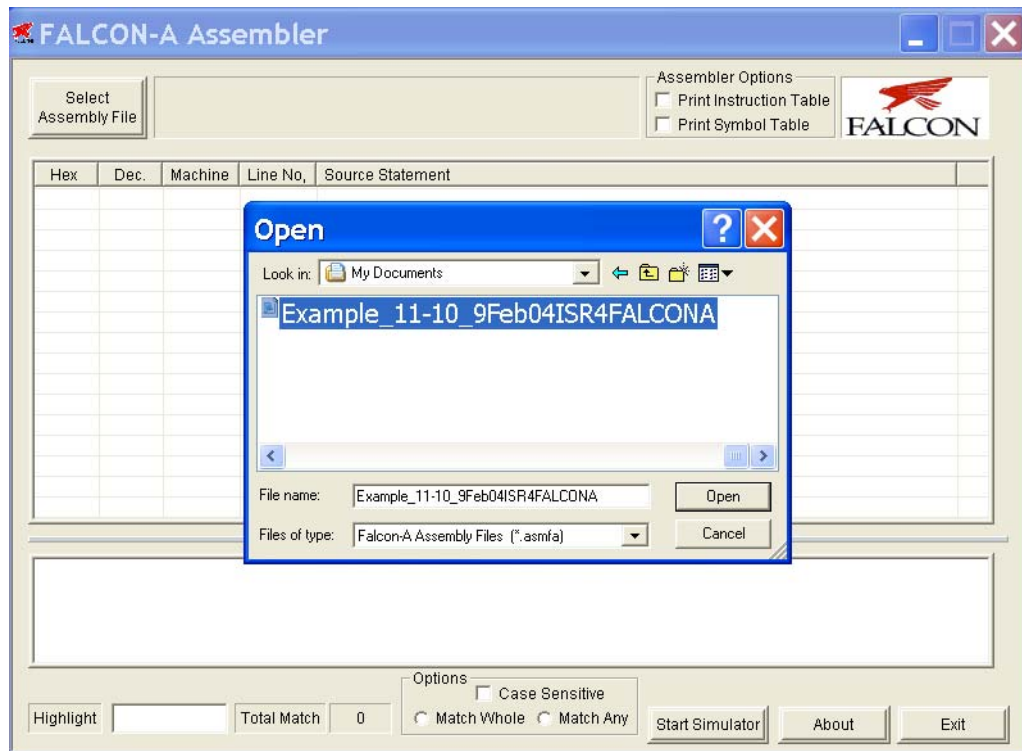

Figure 2
- Click on the select assembly file button labeled as “1”. This will open the dialog box as shown in the Figure 2.